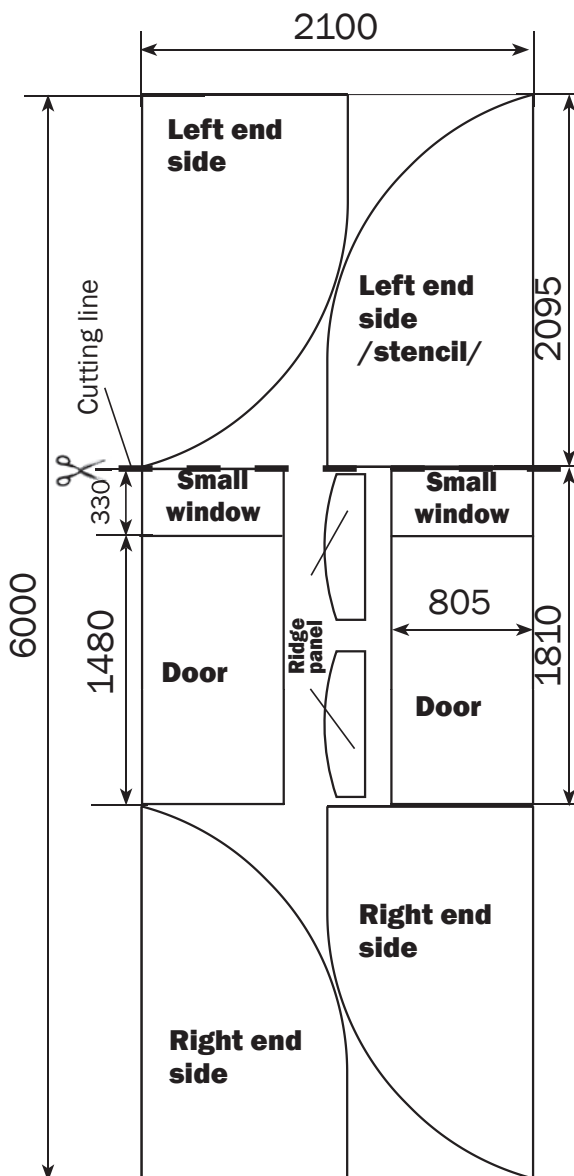

Fig. 15
1. Cut coverage sheet for ends. To do this, cut a piece of 2095 mm length from polycarbonate sheet (see cutting lines on **Fig. 15**). To make a stencil of coverage, put the cut piece to assembled end of greenhouse and, without removal of protective film from polycarbonate, make a stencil marking on the coverage sheet by elements **4BK**, **4HK** and **1** with allowance (**Fig. 16**). When marking a sheet, align its edge strictly with edges of elements **9-1**, **9-2**. Cut a stencil, mark the rest of sheet using the stencil in accordance with cutting scheme (**Fig. 15**).